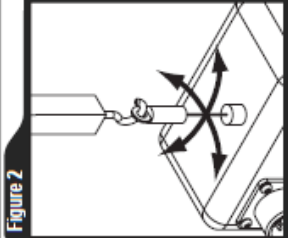

Figure 2
Eye Fitting Freedom – The eye fitting on the end of the wire rope should be mounted to allow rotation both axially about the pivot point and perpendicular to the axis of the pivot (Fig. 2 & 3) to allow the crimp barrel of the eye fitting to follow the direction of the wire rope. This eliminates all bending stress on the wire rope at the crimp of the eye fitting.
5. Solder electrical leads to potentiometer on transducer per the circuit diagram shown in Figure 2 (designators in diagram correspond to pin designators on potentiometer). Output may be reversed by reversing the +Vin and Common leads. Electrical leads may be strain relieved by fastening to the potentiometer with a cable tie.